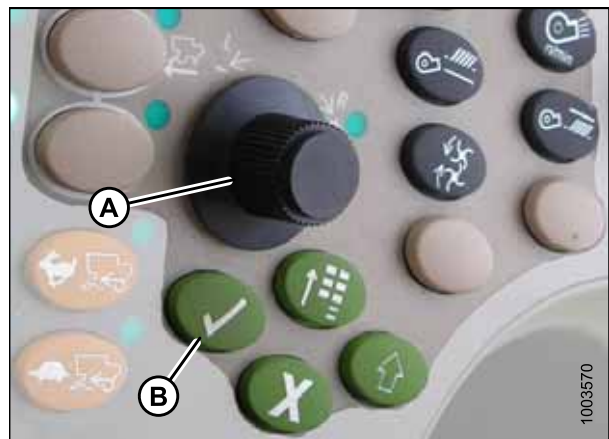

Figure 6.97: John Deere Combine Control Console
6. Select HEADER in box (A) by scrolling down to the box using the scroll knob, and then pressing the check mark button (knob and button are shown in Figure 6.97, page 198).
7. Scroll down to the lower right icon that resembles an arrow in a diamond (B) and press the check mark button to select it.